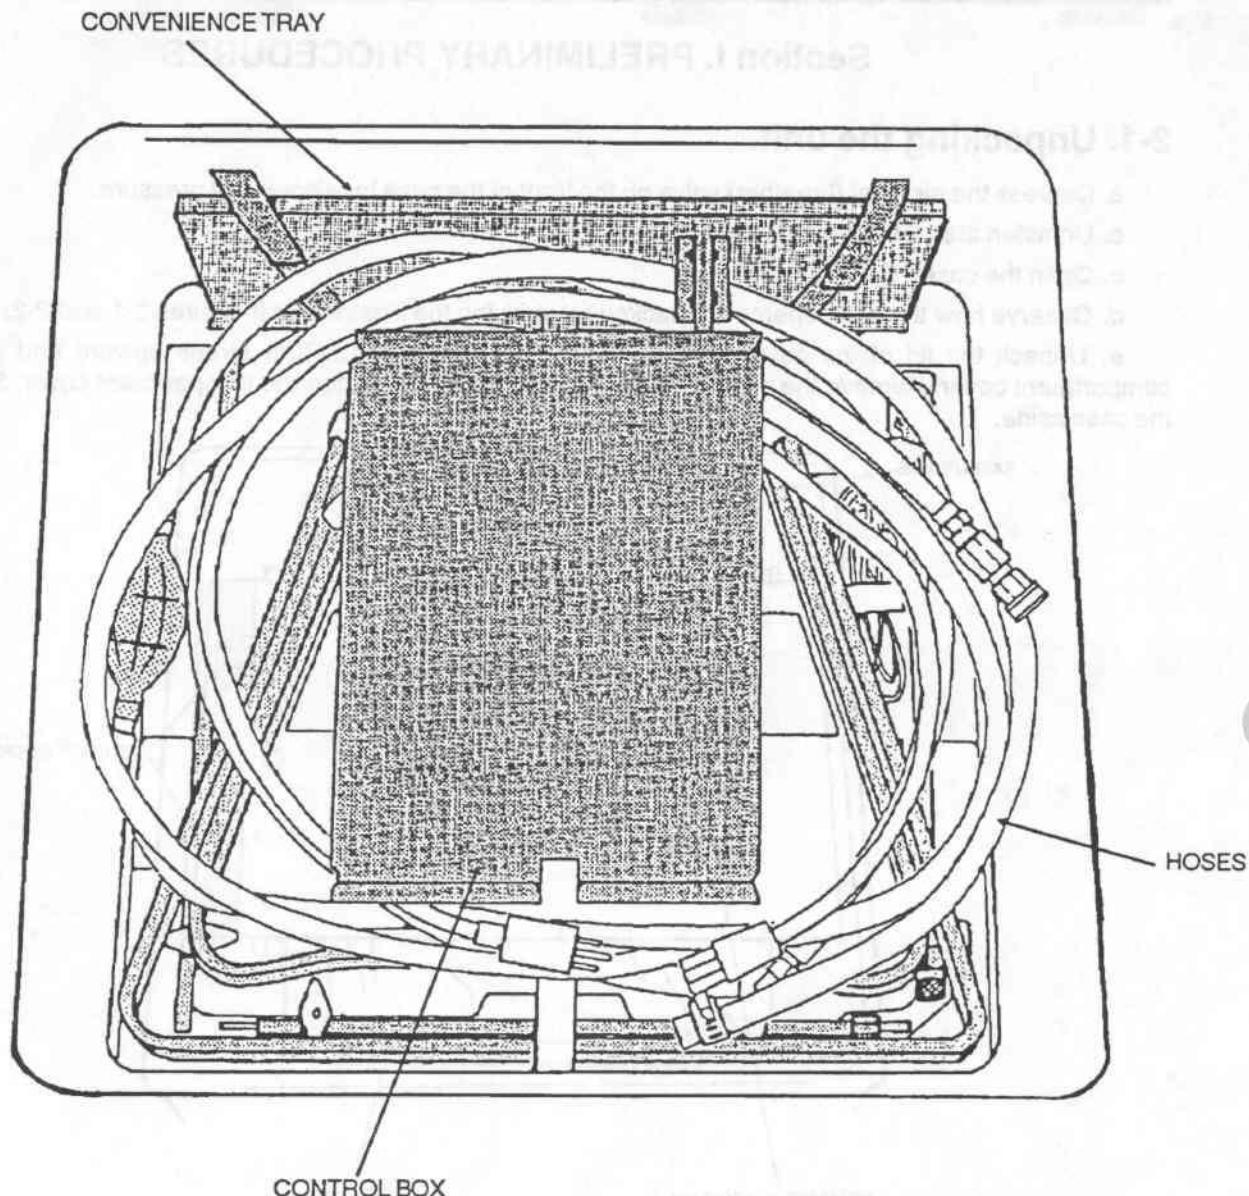

Figure 2-2. Case packing configuration.
- f. Unpack the upper level of the case (fig 2-2) by removing the following items:
- (1) Black rubber basin mat
- (2) Commercial manuals
- (3) Control box
- (4) 115-volt electrical power cable
- (5) Inlet and outlet hose assemblies and drain hose
- (6) Accessory pouches